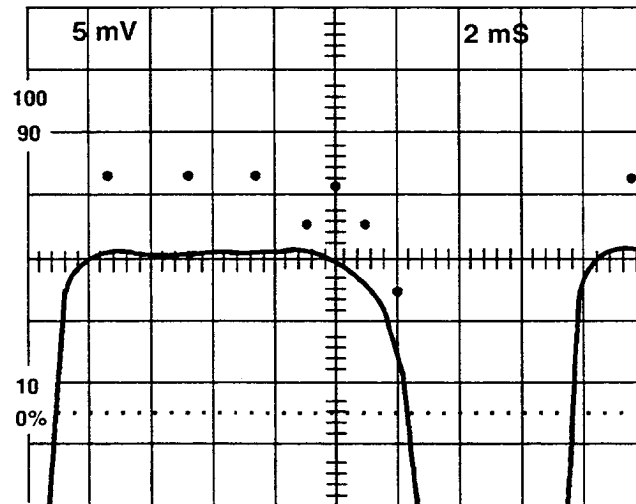

Figure 7-15: Typical response
- q. Repeat all adjustments (parts k. through p. of this step) as necessary for best response. Typically a response of  $\pm 3$  mV (0.4%) from the 55 kHz reference is achievable. (Each minor division on the test oscilloscope is 1 mV.) See Figure 7-15.